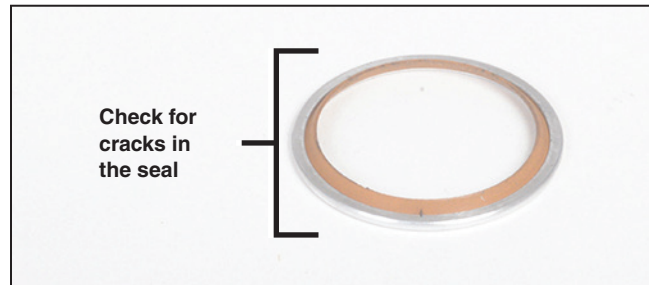

Figure 21. Inspect the inner tube seal.
STEP 17. Inspect the inner tube seal. Replace the seal if it is cracked, deformed, or damaged in any way. S&C recommends replacing the inner tube seal when the inner tube assembly is replaced. See Figure 21.